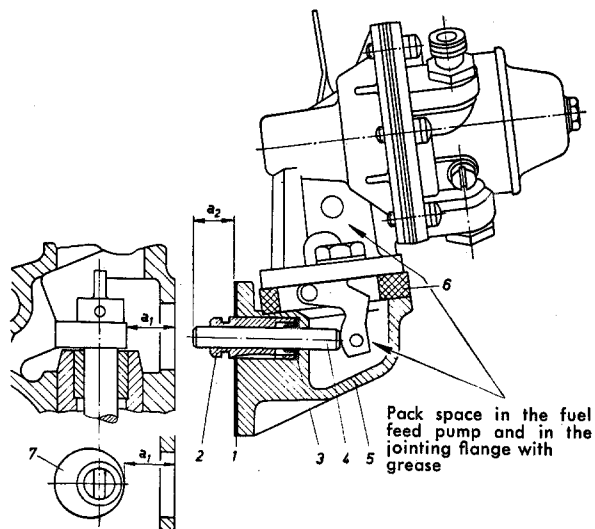

Fig. 09 — 5/6
10. Fit the spring (2) on the shaft carrying the manual lever (21), insert the shaft into the bore in the housing and push on the snap ring (3).
11. Place the oil cover plate (10) and the two springs (9) and (11) in the lower part of the housing and hook the diaphragm (12) onto the link lever (4). To do this, press the link lever toward the diaphragm with the aid of a screw driver.
13. Place the screen with the compression spring (24) on the upper part of the housing, insert a new gasket (25) in the cap (26) and screw on the cap. Fit a new sealing ring (27) under the fixing screw (28).
14. Press the shoulder sleeve (45) into the bore in the jointing flange and press in the bushing (44).
15. Screw the jointing flange (43) together with the insulation flange (38) and the two gaskets (37) and (39) onto the fuel feed pump (Fig. 09 — 5/5).
Before screwing the parts together, pack the space in the fuel feed pump and in the jointing flange with grease (Fig. 09 — 5/6).